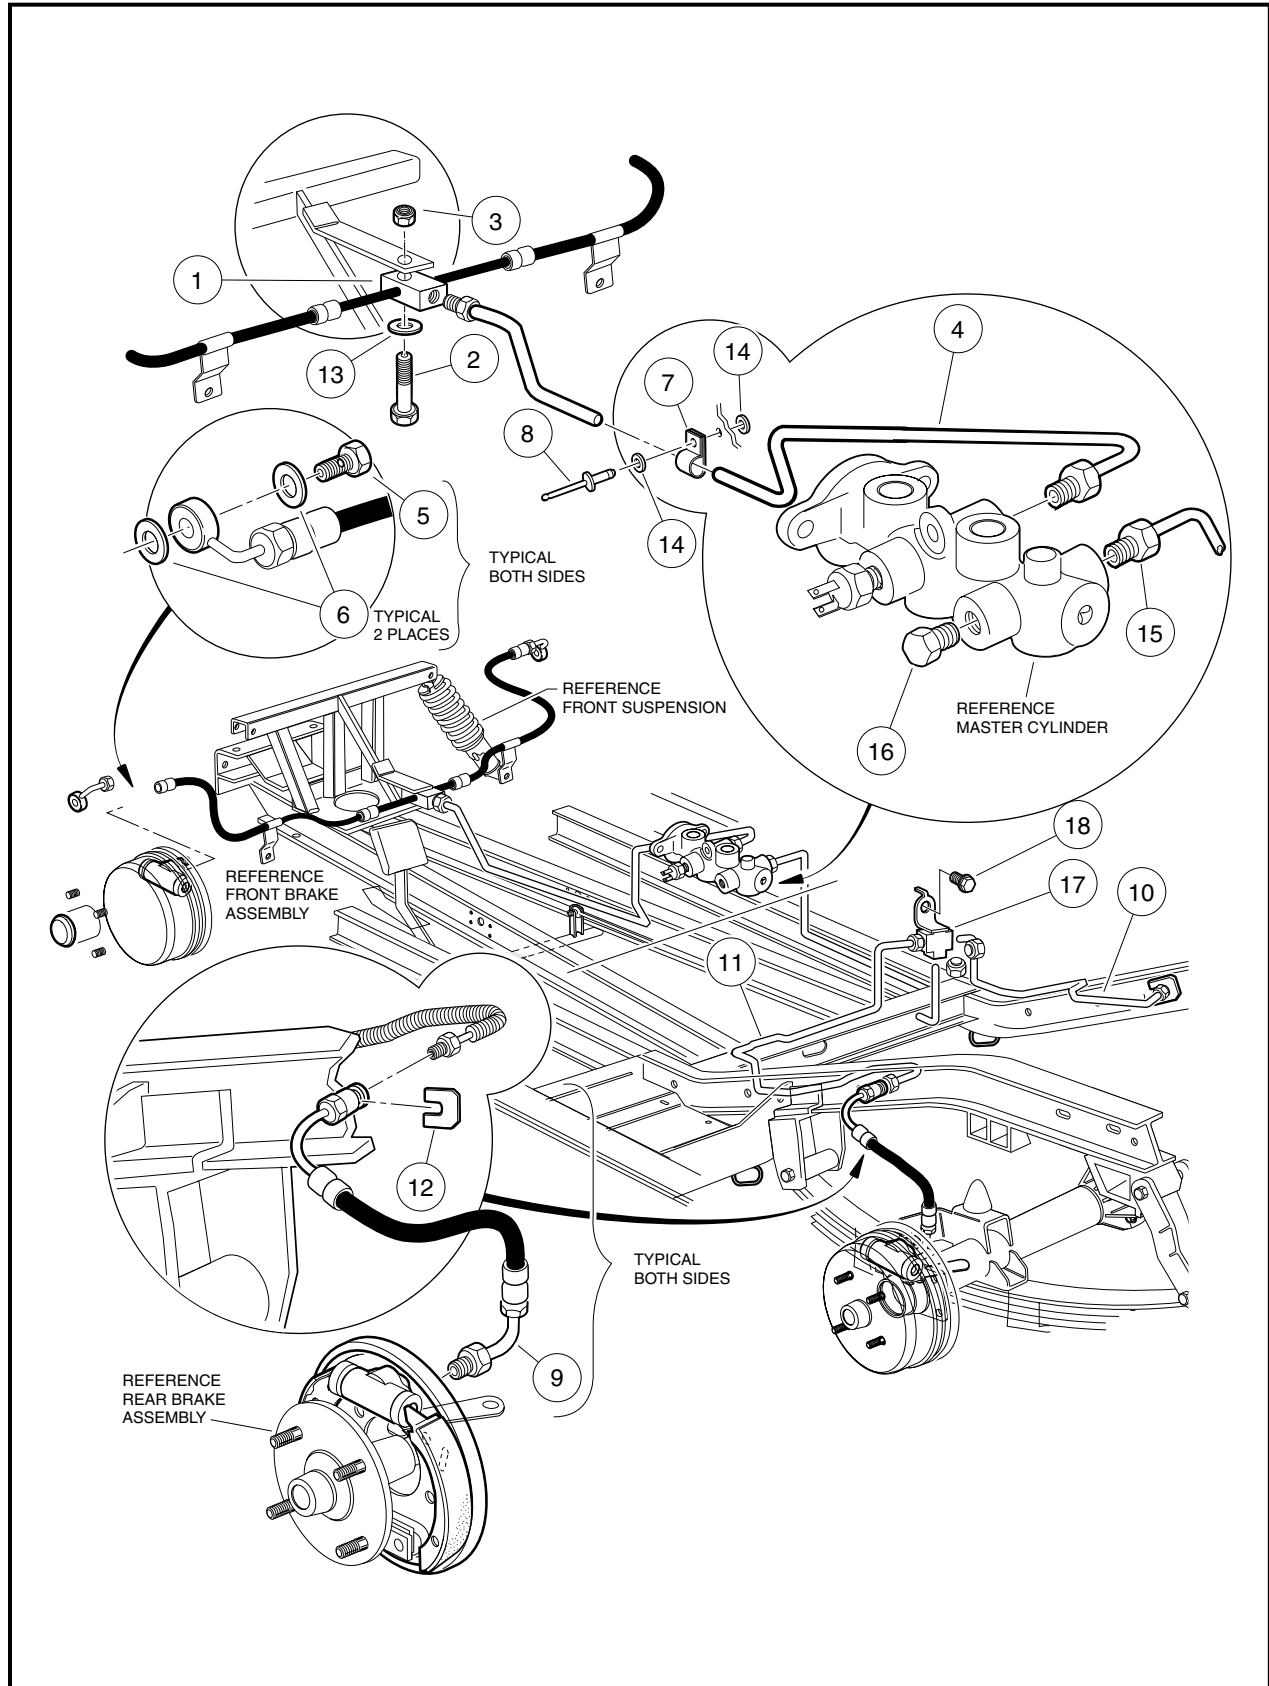
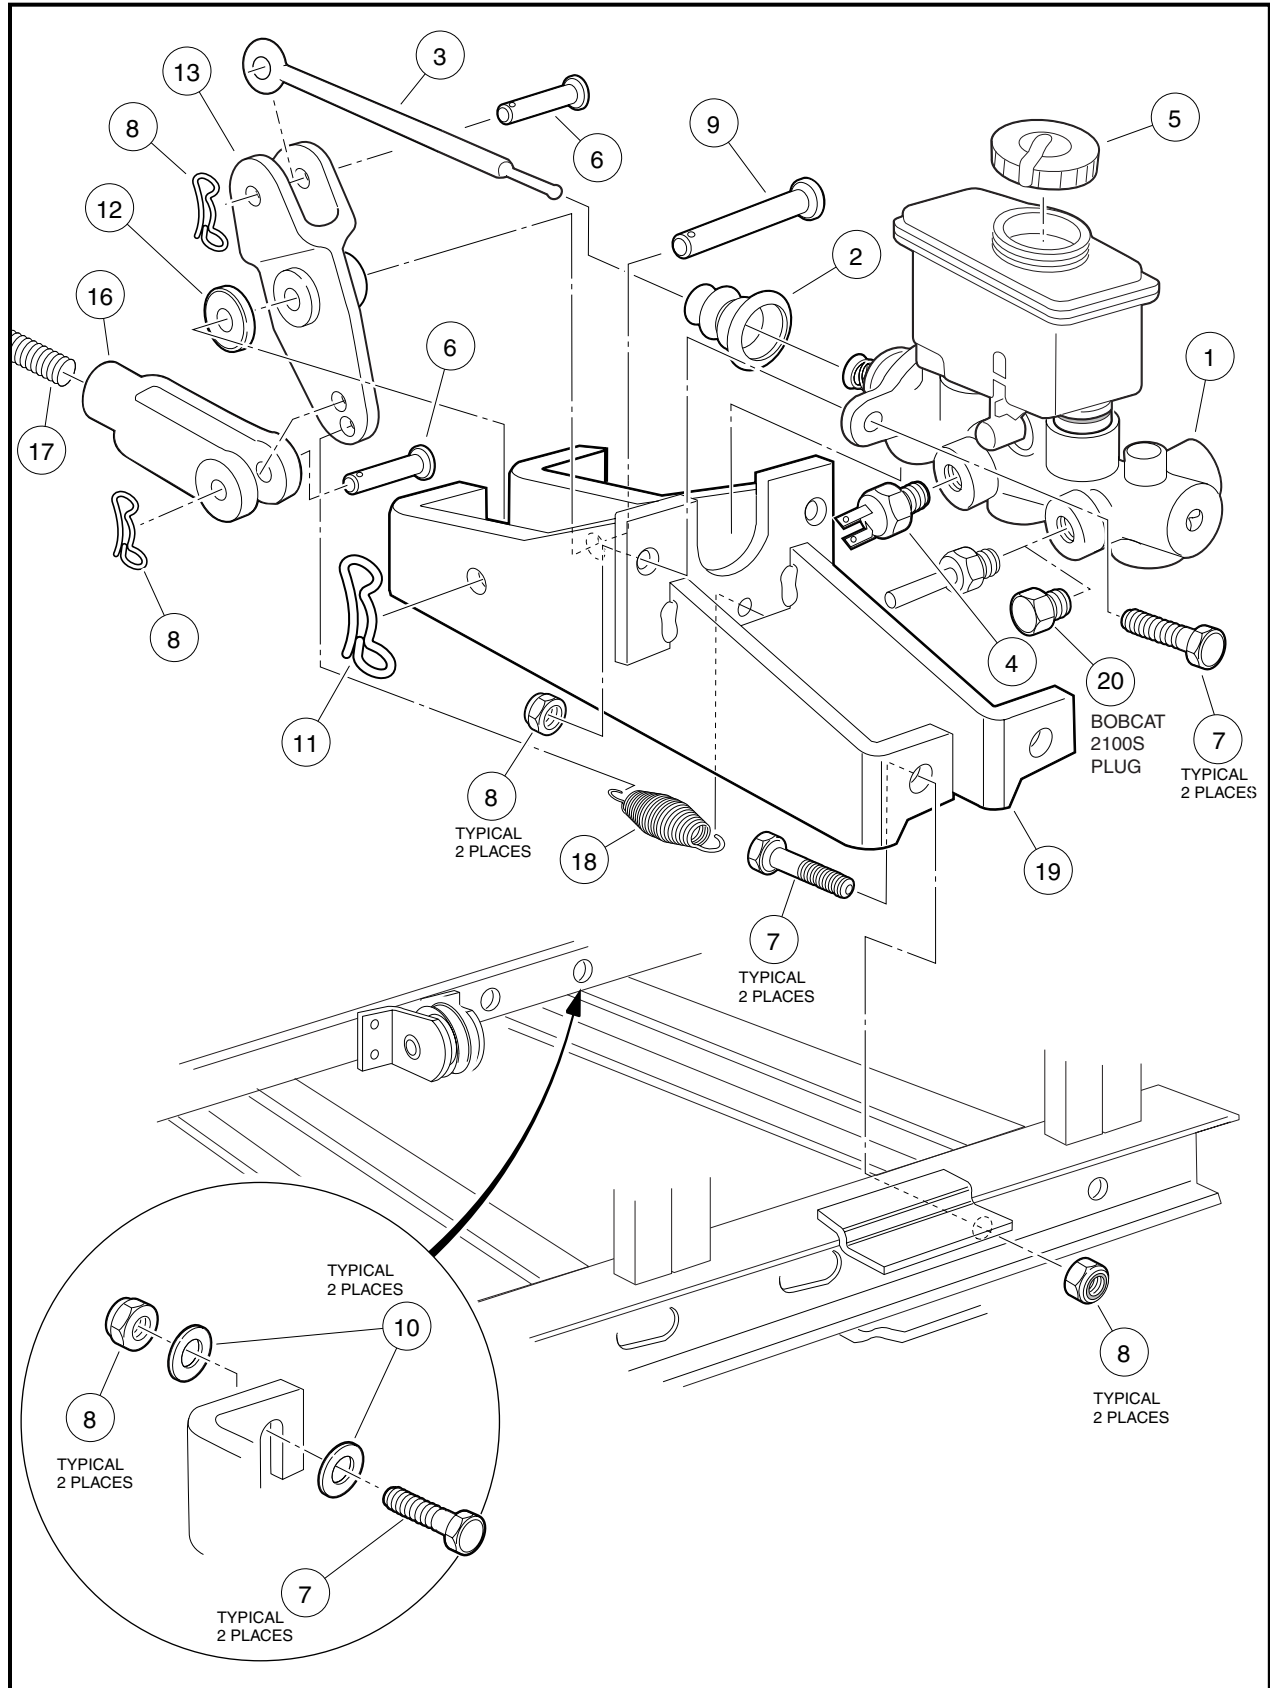

Figure 6-21 Bobcat 2100S Four-Wheel Hydraulic Brake System
Figure 6-22 Master Cylinder
- 2.4. Use a 3/8-inch flare nut wrench to remove rear brake line (15) from the master cylinder **(Figure 6-21, Page 6-28)**.
- 2.1. Install brake tee (17) to vehicle frame plate using hex-head 1/4-20 x 3/4-inch bolt (18) and tighten to 65 in-lb (7.345 N·m) **(Figure 6-21, Page 6-28)**.
5. Use a 3/8-inch flare nut wrench to remove the rear brake line (10 or 11) from the rear brake hose at the I-beam of the vehicle frame **(Figure 6-20, Page 6-25 or Figure 6-21, Page 6-28)**.
6. Remove the horseshoe clip (12) that secures the rear brake hose (9) to the I-beam frame and remove brake hose (9) through the oval-shaped hole in the vehicle I-beam.
1. Install brake hose (9) through the oval-shaped hole in the vehicle I-beam, and install the horseshoe clip (12) that secures the brake hose to the I-beam frame (**Figure 6-20, Page 6-25 or Figure 6-21, Page 6-28**).
3. Install the rear brake line (10 or 11) to the rear hose (9) at the I-beam of the vehicle frame (**Figure 6-20, Page 6-25 or Figure 6-21, Page 6-28**). Tighten to 11 ft-lb (14.9 N·m).
2. Remove brake rod clevis pin (6), bow tie locking pin (8) and clevis (16) from the bell crank (13) (**Figure 6-22, Page 6-30**).
3. Remove the spring (18) from the bell crank (13) and master cylinder mounting bracket (19).
4. Remove push rod clevis pin (6) and bow tie locking pin (8) from the push rod (3) and bell crank (13).
5. Remove bell crank clevis pin (9) and bow tie locking pin (11) from the master cylinder mounting bracket (19) and remove bell crank (13) and centering spacer (12).
1. Install bell crank clevis pin (9) through the master cylinder bracket (19), bell crank (13), centering spacer (12) and attach bow tie locking pin (11) (**Figure 6-22, Page 6-30**).
2. Install push rod clevis pin (6) through the bell crank (13) and push rod (3) and attach bow tie locking pin (8).
3. Install brake rod clevis pin (6) through clevis (16) and bell crank (13) and attach bow tie locking pin (8).
4. Install spring (18).
3. Remove the two wires from the master cylinder pressure switch (4) (**Figure 6-22, Page 6-30**).
4. Use a 7/16-inch flare nut wrench to remove the brake line (4) from the master cylinder (**Figure 6-20, Page 6-25 or Figure 6-21, Page 6-28**).
- 6.1. Use a 3/8-inch flare nut wrench to remove the brake line (15) from the master cylinder (**Figure 6-21, Page 6-28**).
8. Remove the two bolts (7) and nylon lock nuts (8) that secure the master cylinder (**Figure 6-22, Page 6-30**).
9. Remove master cylinder (1) from mounting bracket (19), push rod (3) and rubber boot (2).
1. Install master cylinder (1) into mounting bracket (19) and insert push rod (3), then seat boot (2) (**Figure 6-22, Page 6-30**).
2. Install two bolts (7) and nylon lock nuts (8) that secure the master cylinder (1) to the master cylinder mounting bracket (19) and tighten to 14 ft-lb (19 N·m).
3. Attach brake line (4) to master cylinder and tighten flare nut fitting to 11 ft-lb (14.9 N·m) (**Figure 6-20, Page 6-25 or Figure 6-21, Page 6-28**).
- 5.1. Attach brake line (15) to master cylinder and tighten flare nut fittings to 11 ft-lb (14.9 N·m) (**Figure 6-21, Page 6-28**).
6. Attach the two wires to the master cylinder pressure switch (4) (no particular orientation).